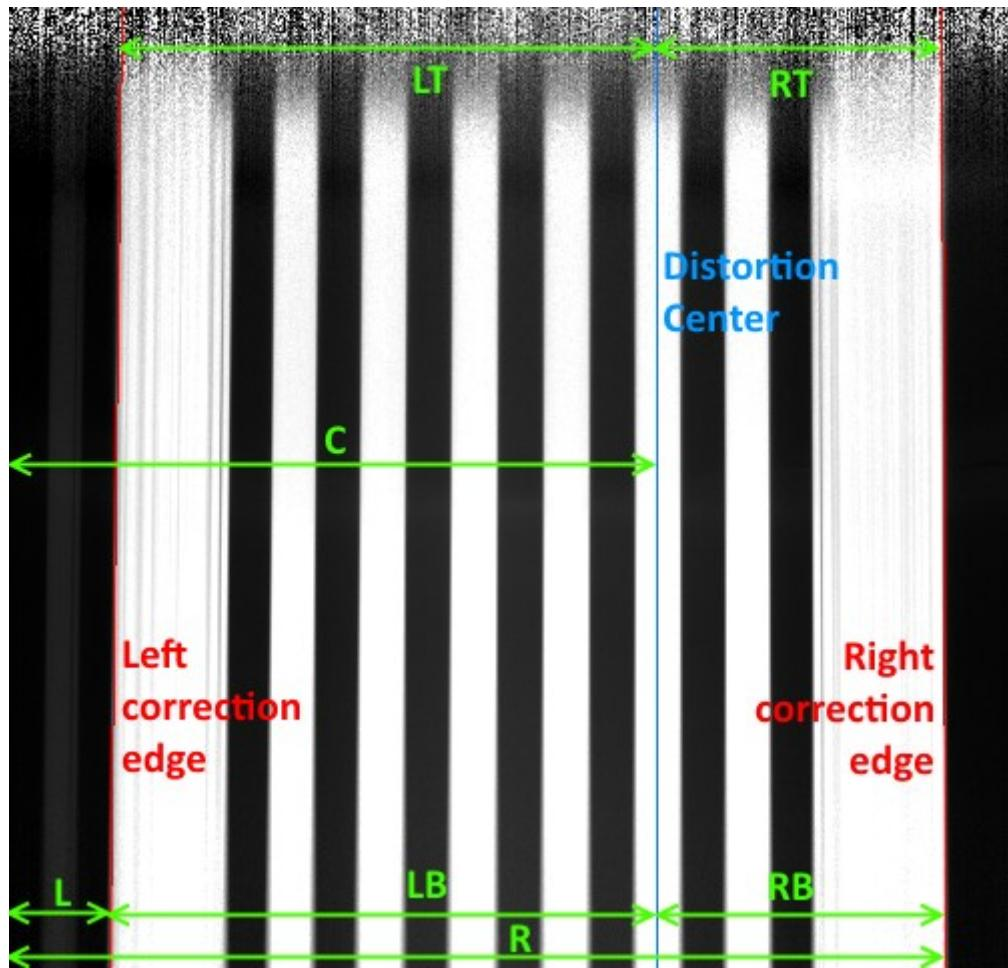

Fig 36: Chromatic Correction Settings Picture
Capture chessboard or different pattern with contrasting edges (Fig 36) + dark and white calibration file
3. Find distortion center – edges are vertically and from the center to image edges gradually fall (blue in Fig 36)
4. Find appropriate contrasting edges – red correction edges in Fig 36